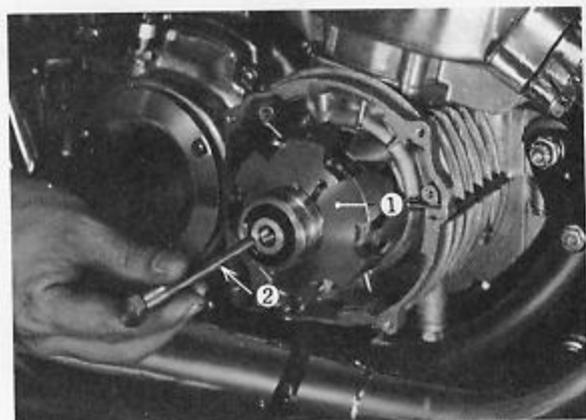

Fig. 3-10 Removing alternator rotor
- Remove the alternator housing assembly, and the rotor with the Rotor Remover (09930-33110). See Fig. 3-10.